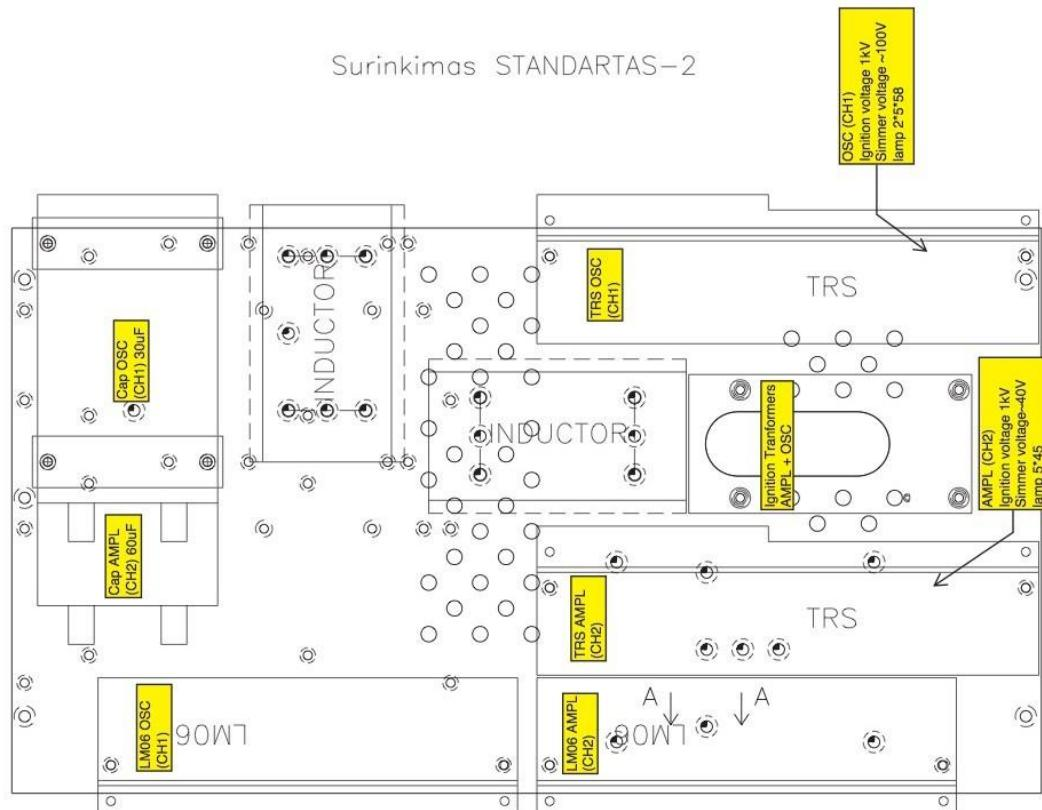
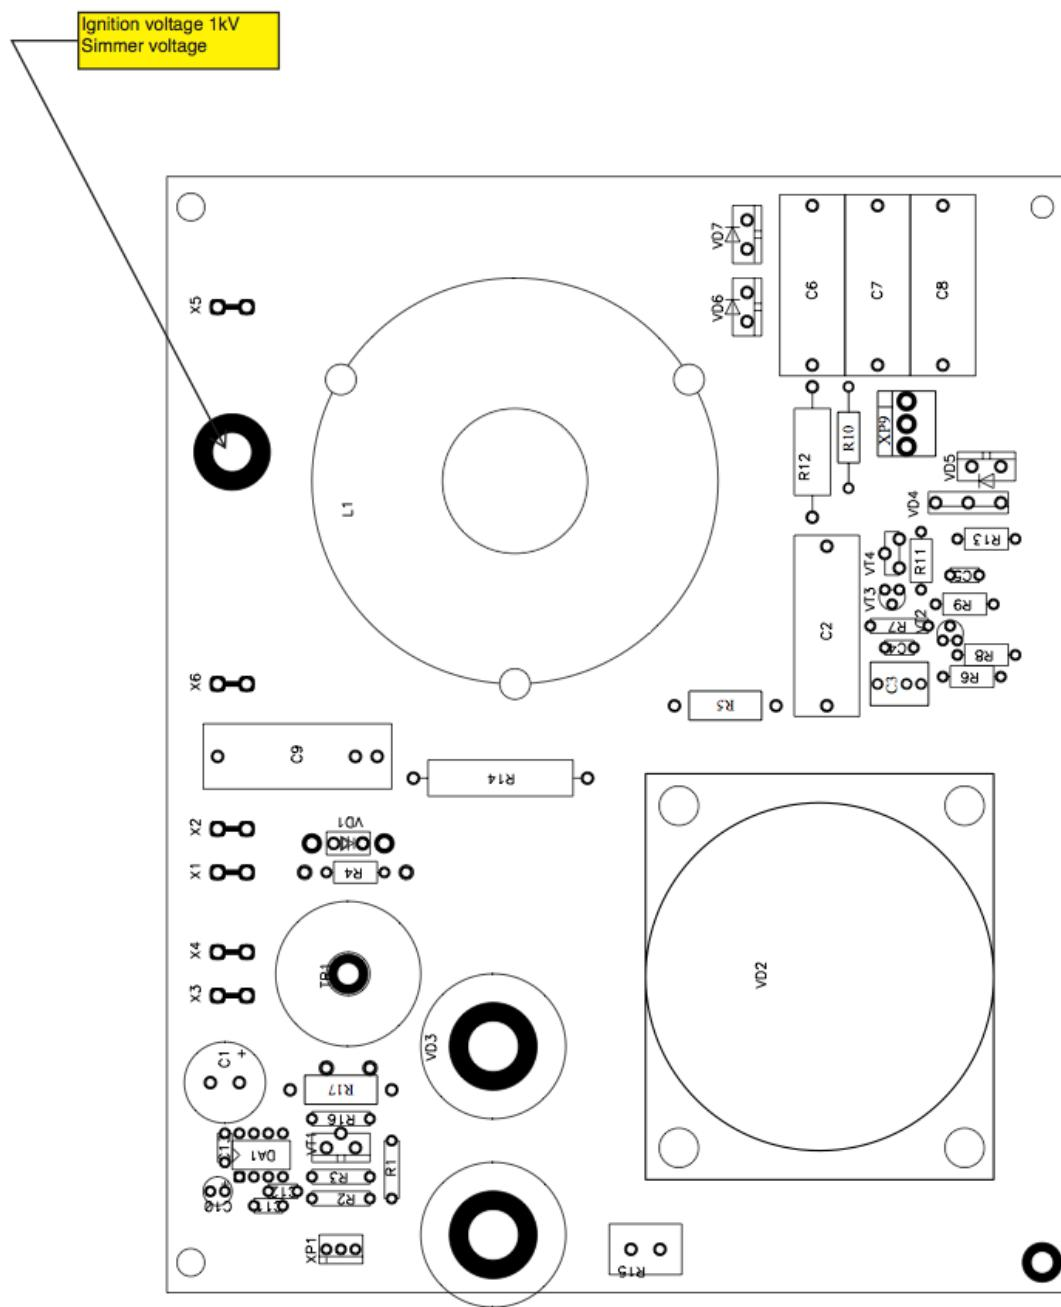

Figure 44 PS5050 board layout
Figure 45 TRS-3 board
5. Measure OSC (CH1) channel if Ignition voltage exists (Figure 44 and Figure 45).
8. Connect Volt-meter (700...1000V) between '+' on the frame and '-' on the point *Ignition voltage* (M6 screw on the TRS board, Figure 45).